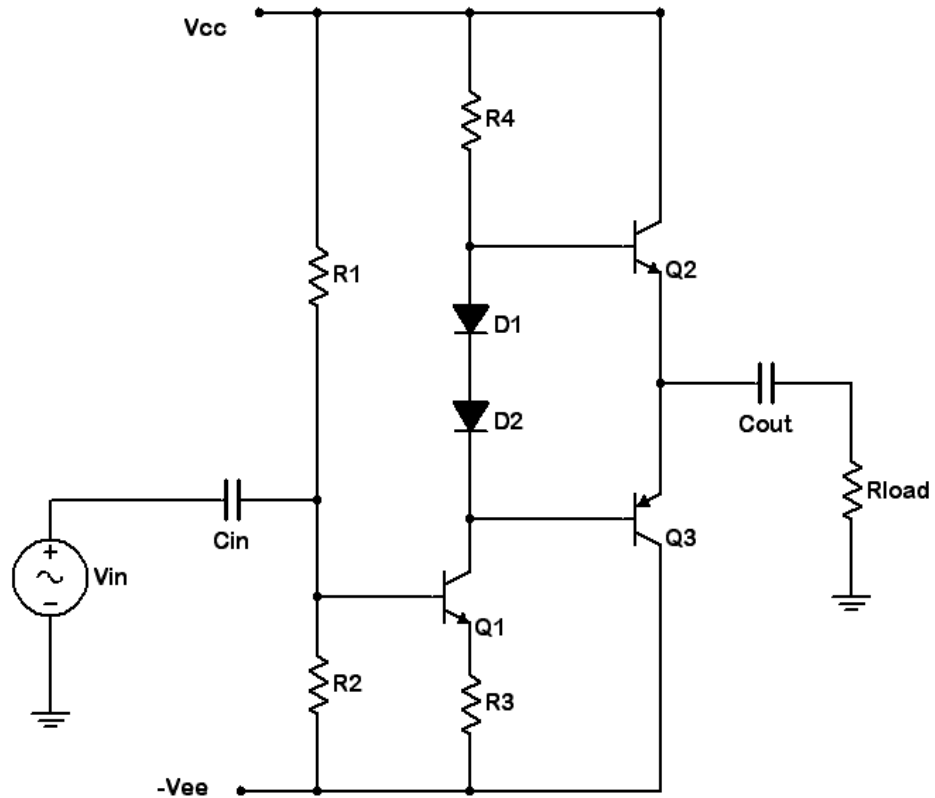

Figure 14.1
1. Consider the circuit of Figure 14.1 using  $V_{cc} = 6$  volts,  $V_{ee} = -6$  volts,  $R_1 = 6.8$   $\text{k}\Omega$ ,  $R_4 = 1$   $\text{k}\Omega$ ,  $R_3 = 100$   $\Omega$ ,  $R_{load} = 100$   $\Omega$ ,  $C_{in} = 1$   $\mu\text{F}$  and  $C_{out} = 100$   $\mu\text{F}$ .  $R_2$  is an adjustable resistance (pot or decade box). For proper bias, the emitters of the output transistors should be at 0 volts DC. For this to be true there must be  $V_{cc} - V_{be}$  or approximately 5.3 volts across  $R_4$ . Ignoring base currents, this establishes  $I_{CQ}$  of transistor 1 which in turn creates a potential drop across  $R_3$ . From this the voltage across  $R_2$  may be determined. Knowing the value of  $R_1$  and the total supply presented, Ohm's law or the voltage divider rule may be used to compute the required setting for  $R_2$ . Compute the required value for  $R_2$  and record it in Table 14.1.
4. Build the circuit of Figure 14.1 using  $V_{cc} = 6$  volts,  $V_{ee} = -6$  volts,  $R_1 = 6.8\text{ k}\Omega$ ,  $R_4 = 1\text{ k}\Omega$ ,  $R_3 = 100\Omega$ ,  $R_{load} = 100\ \Omega$ ,  $C_{in} = 1\ \mu\text{F}$  and  $C_{out} = 100\ \mu\text{F}$ . Set the pot or decade box ( $R_2$ ) to the value calculated in Table 14.1. Disconnect the signal source and inspect the DC voltage at the load. Adjust  $R_2$  until this voltage goes to 0 volts. Record the resulting value of  $R_2$  in Table 14.1.